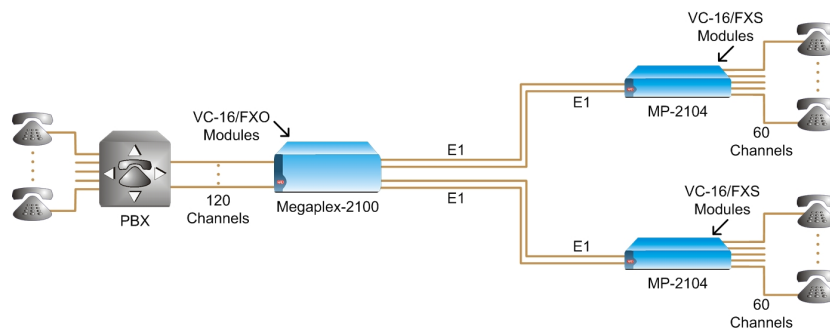

Figure 2. Multipoint, Off-Premises Extension of 120 PCM Voice Channels Using Four E1 Links
- Off-Premises Extension (OPX), where a local telephone on the PBX can be connected to an off-premises telephone, by dialing only the extension number assigned to the off-premises telephone (see *Figure 2*);